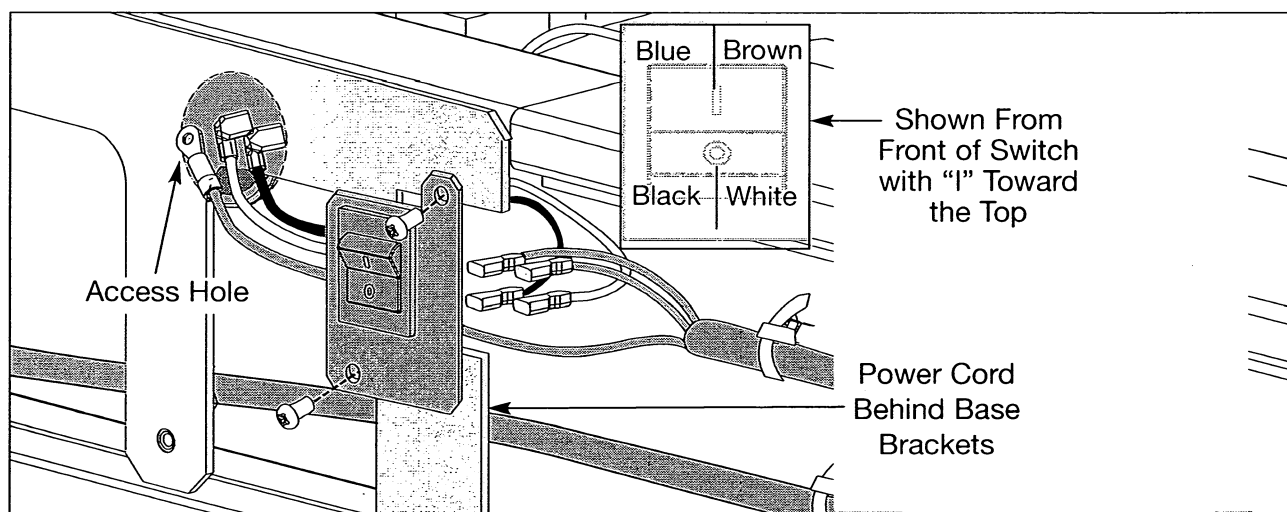

Figure 23
- A. Hold the power switch and its plate so that the I (on) is toward the top. See Figure 23.